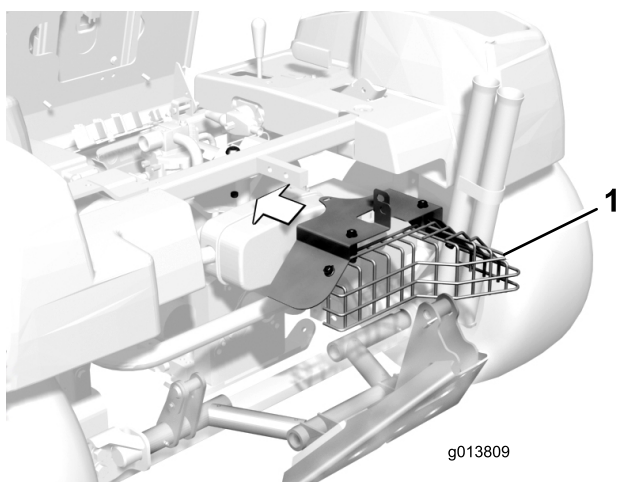

Figure 9
13. Position the shield assembly so the mounting tabs straddle the upper roller plate mounting holes and the machine screw fits into the rear shield hole. Loosely mount the shield to the machine screw with the nut (Figure 9).